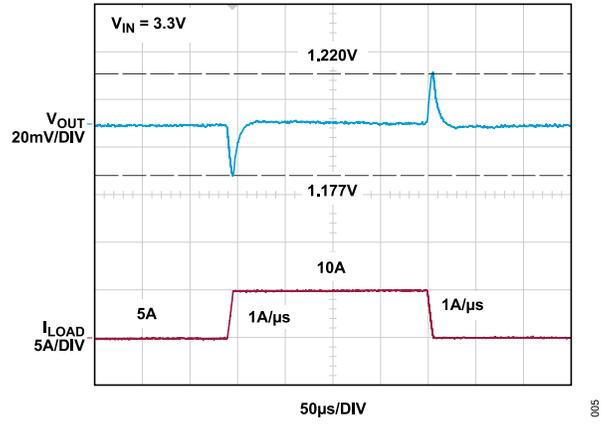

Figure 5. Load Step Response
15. Measure the I_STEP voltage to observe the current, $V_{I_STEP}/20$ m Ω . Adjust the amplitude of the pulse to provide the desired transient. Connect the signal generator (SG_INPUT) between the SG_INPUT and GND turrets. Adjust the rising and falling edge of the pulse to provide the desired ramp rate. Figure 5 shows a load step from 5 A to 10 A. Refer to the following equations: